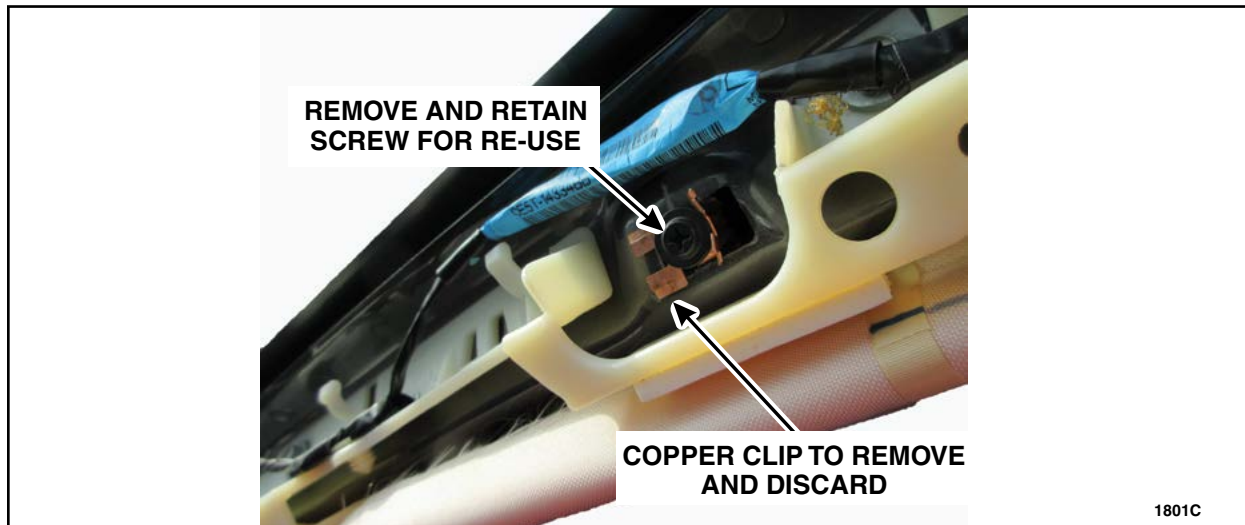

FIGURE 4
3. Remove and discard the top A-Pillar clip from the body. See Figure 4.